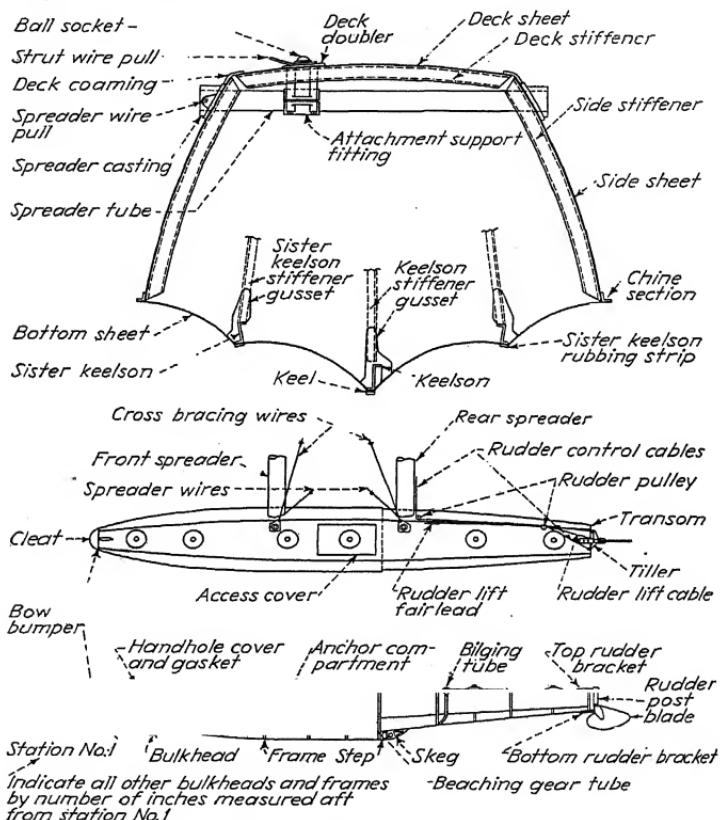

FIG. 28.—A section and outline of floats with parts named.
*Ordering Parts.*—In ordering parts it is important that the *exact model* and *serial number* of both the *floats* and the *aircraft* be supplied in all cases, together with *specific information as to the exact parts required*, and where possible the *part numbers* shown on the installation drawings or packing sheets should be indicated. Float parts are named in Fig. 28.